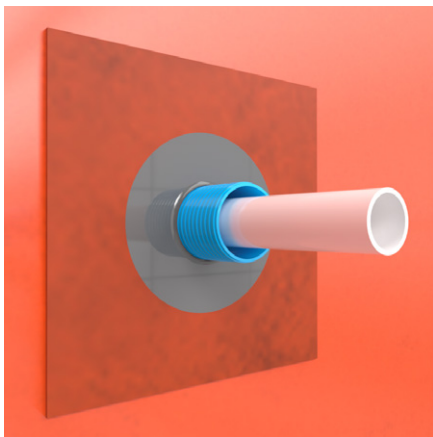

FIGURE 14.
5. Sealing against pipe penetrations, see Figures 14, 15 and 16.